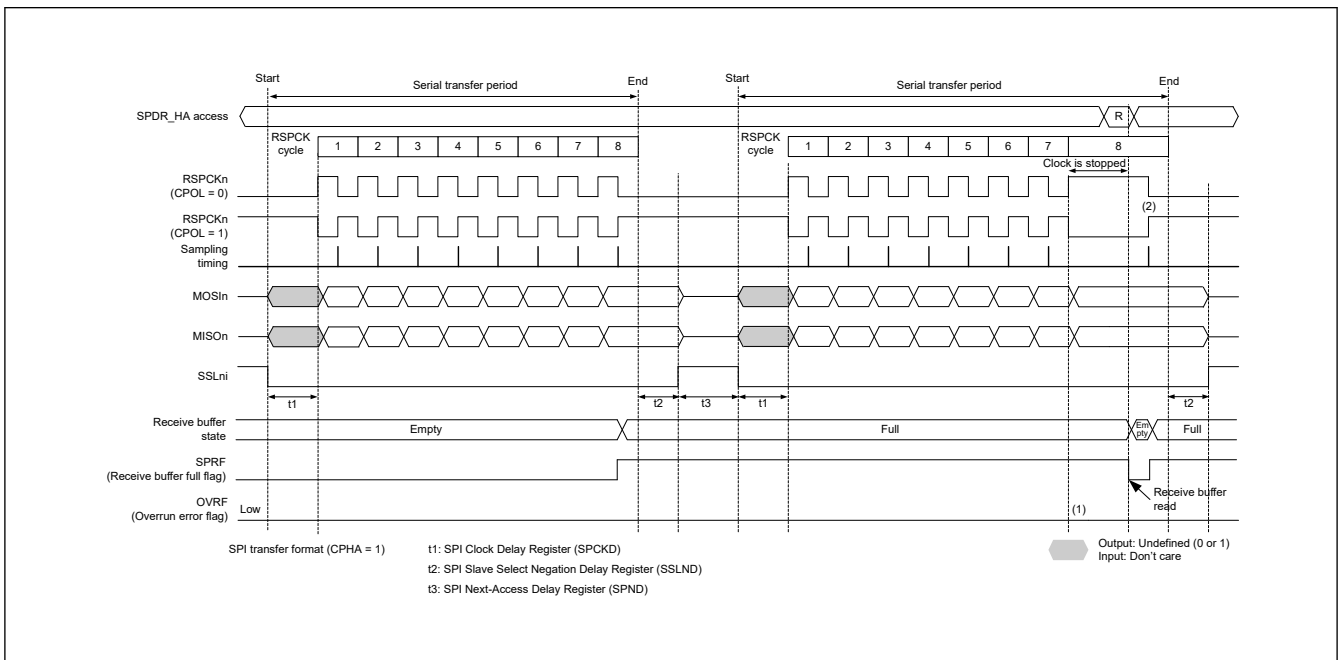
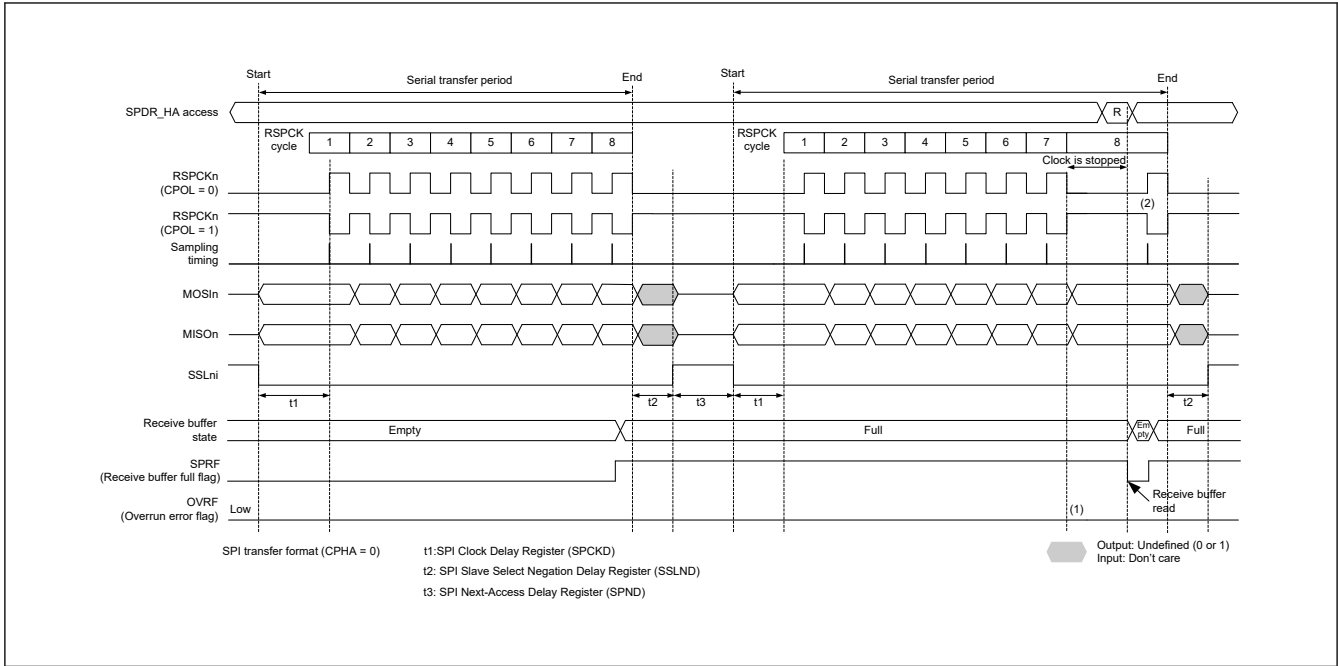

Figure 27.29 Clock stop waveform when serial transfer continues while receive buffer is full in master mode (CPHA = 1)
Figure 27.30 Clock stop waveform when serial transfer continues while receive buffer is full in master mode (CPHA = 0)
When the RSPCK auto-stop function is enabled (SPCR2.SCKASE = 1) in master mode, an overrun error does not occur. Figure 27.29 and Figure 27.30 show the clock stop waveform when a serial transfer continues while the receive buffer is full in master mode.
The operation of the flags at timings (1) and (2) in Figure 27.29 and Figure 27.30 is as follows: